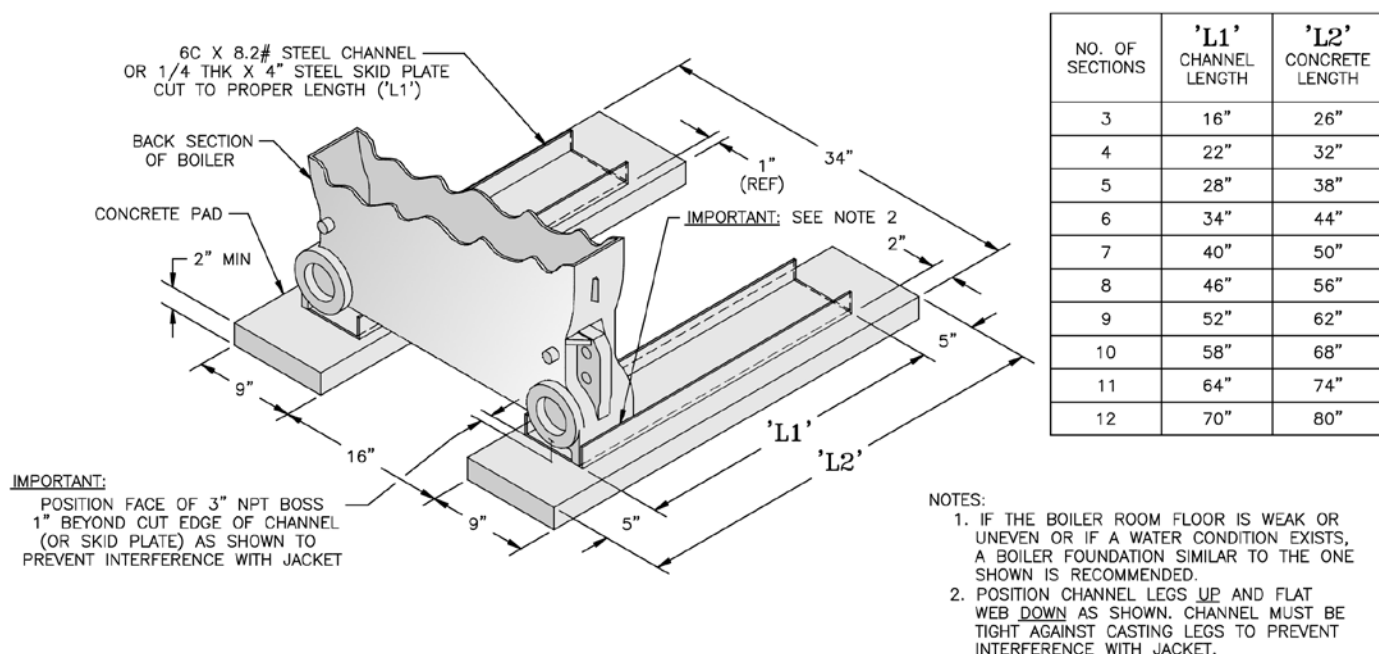

Figure 2: Boiler Foundation
3. PROVIDE ADEQUATE FOUNDATION for the unit. Refer to Figure 2.
Floor construction should have adequate load bearing characteristics to bear the weight of the boiler filled with water (see Table 1). A boiler foundation similar to the one shown in Figure 2 is recommended if the boiler room floor is weak or uneven or if a water condition exists.